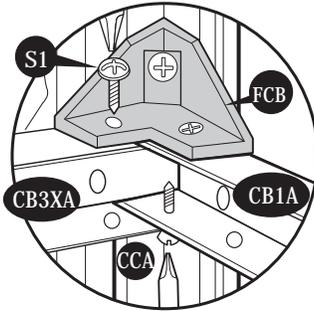

Fig.2: Use (S1) screws. Fix (CB3XA) to (FCB) and (CB1A)
12. Stabilize the side panels with center bands (CB3XA) & (CB2A). Fix (FCB) fitting to corner column (CCA). See Fig.1 Follow the Fig. 2, 3, 4, 5 & 6